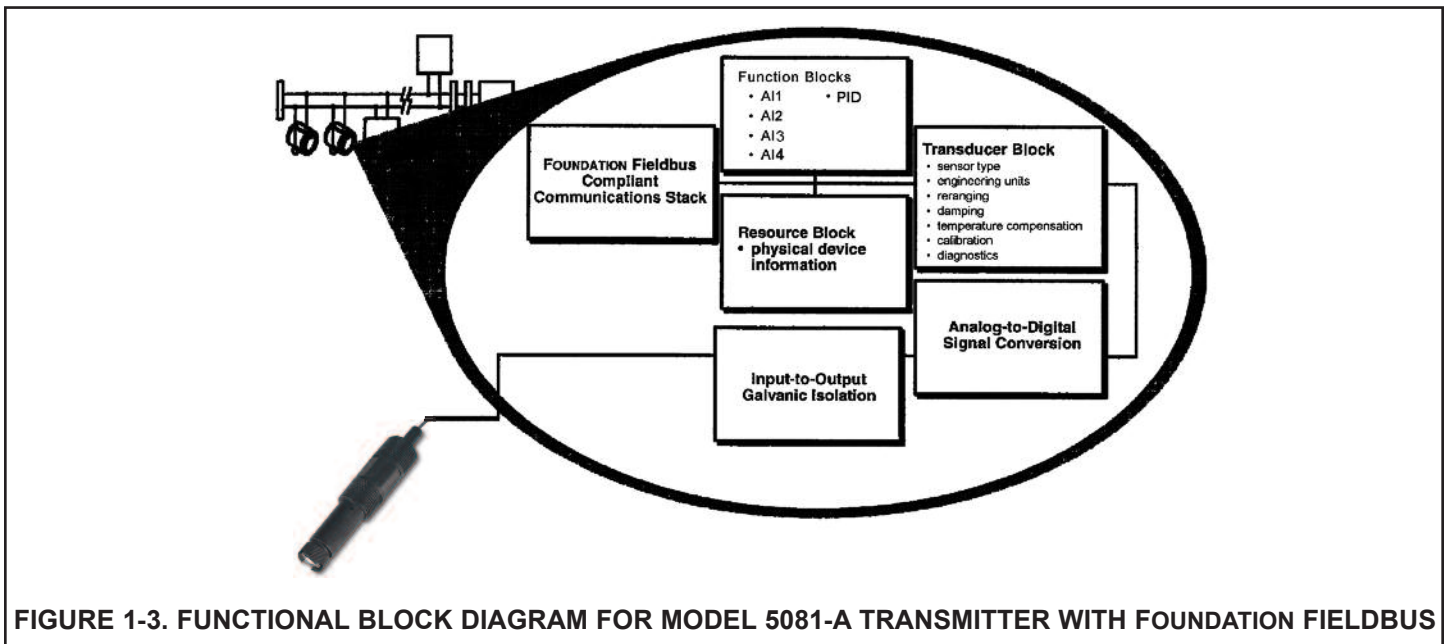

FIGURE 1-3. FUNCTIONAL BLOCK DIAGRAM FOR MODEL 5081-A TRANSMITTER WITH FOUNDATION FIELDBUS
1.10 FOUNDATION FIELDBUS (FIGURE 1-3)
Figure 1-3 is the block diagram for the 5081-A-FF transmitter. AMS Inside from Rosemount Analytical allows plant personnel to read process variables and completely configure FOUNDATION Fieldbus transmitters.